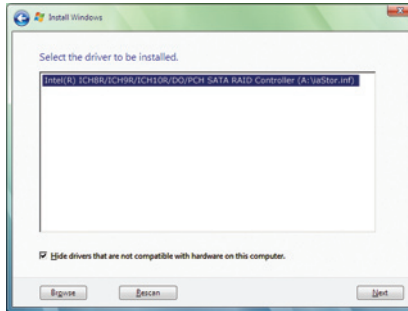

Figure 6
When a screen as shown in Figure 6 appears, select **Intel(R) ICH8R/ICH9R/ICH10R/DO/PCH SATA RAID Controller (A: \iaStor.inf)** and click **Next**.